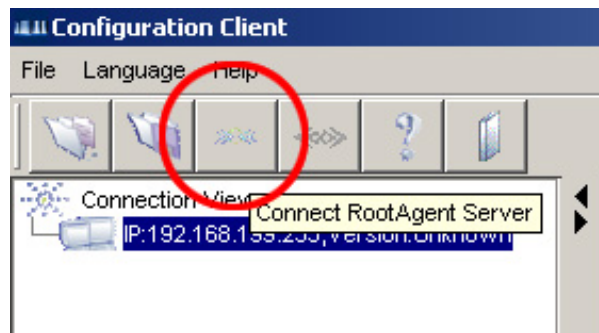
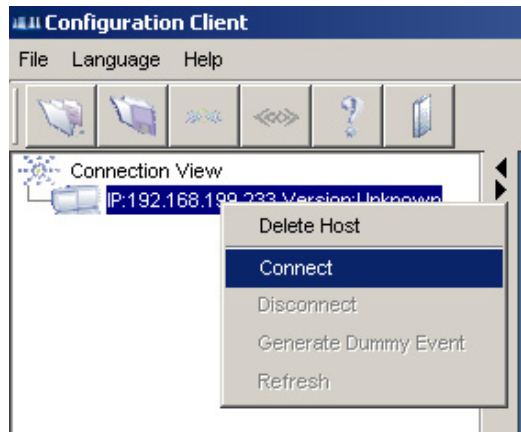

Figure 4-6: Connect Commands
Figure 4-7: Connect Commands
Step 3. The connected IP displays on the left of the **Connection View** window. Select the IP and click the **Connect Root Agent Server** icon (see **Figure 4-6**) or right-click on the displayed IP to display the **Connect** commands. (See **Figure 4-7**)